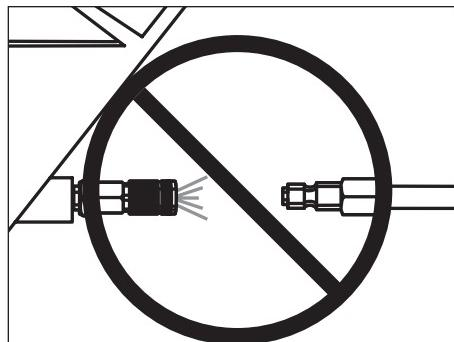

Figure 2
**WARNING** Always fit tool with a fitting or hose coupling on or near the tool in such a manner that all compressed air in the tool is discharged at the time the fitting or hose coupling is disconnected. Do not use a check valve or any other fitting which allows air to remain in the nailer. Death or serious personal injury could occur. See Figure 2 on page 6.